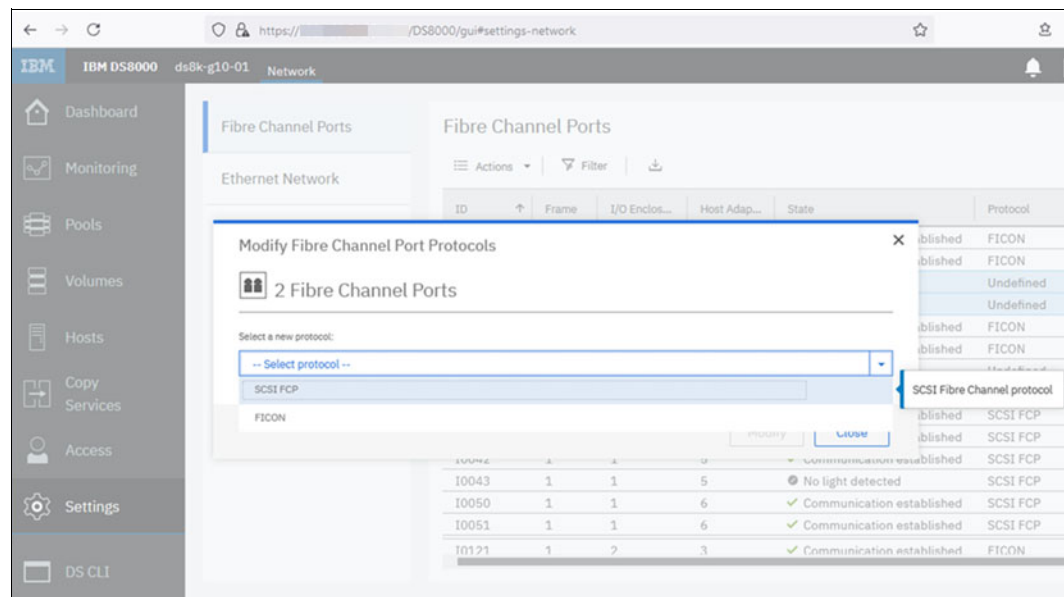

Figure 9-9 Configuring the Fibre Channel port topology
- ▶ Another option is to click **Settings** → **Network** → **Fibre Channel Ports**, select a specific port from the list, and select **Actions** to set the ports, as shown in Figure 9-9.